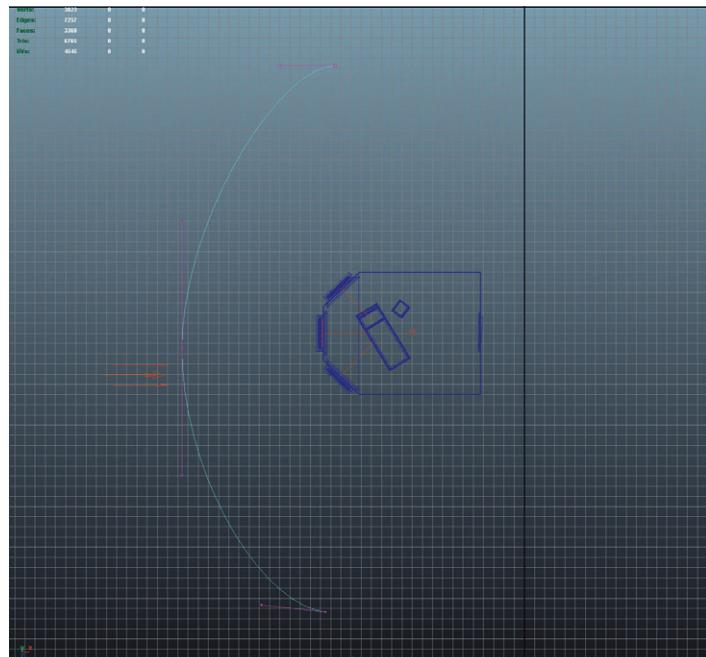
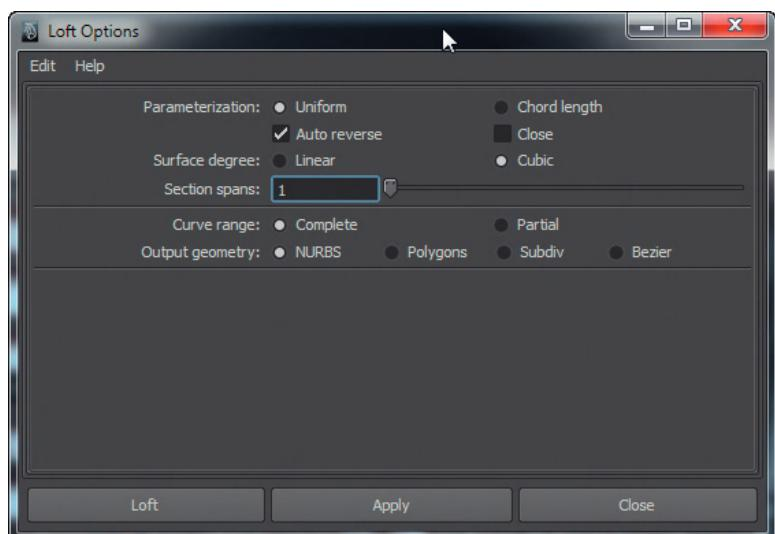
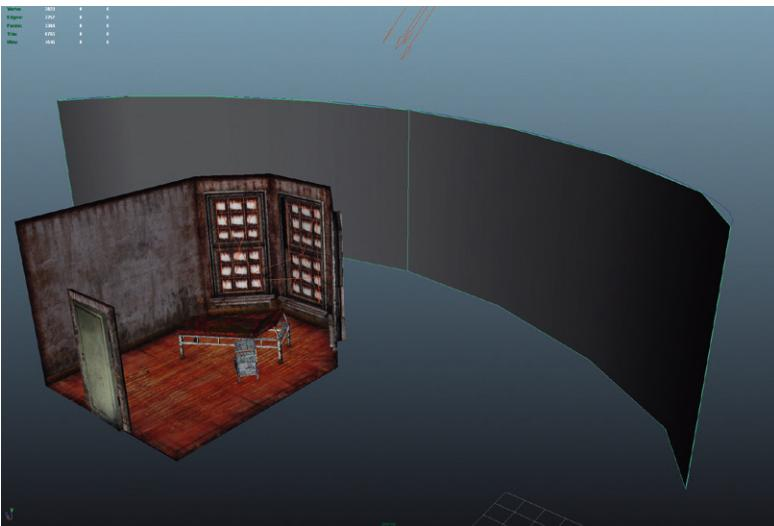

FIG 7.31 The Bezier curve that will become the cyc. Notice this is done with three anchors.
FIG 7.32 Loft Options for the Loft that creates the cyc geometry.
FIG 7.33 Lofting results.
Step 13: Model a cyc. This can be done several ways, but let's look at a slightly different method here than we've used in the past. Start by creating a Bezier curve in the top View Panel to roughly mimic Fig. 7.31. Duplicate this curve and move it above the original, so there are two curves to define the bottom and top of the cyc. Select both and choose Surfaces|Surfaces > Loft \(Options\). Make sure the options match Fig. 7.32. The results are shown in Fig. 7.33. Name this object Cyc.